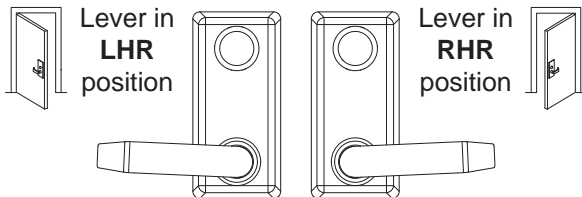

Figure 1
1 Check lever position (Figure 1).
- 4 Rotate lever to LHR or RHR position (Figure 1).